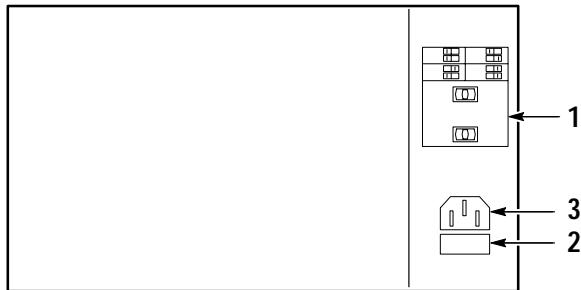

Figure 1: Line Voltage Selectors, Power Input, and Fuse Locations
Check the following items prior to operating the Laboratory DC Power Supply for the first time (see Figure 1 for locations of items 1 through 3):